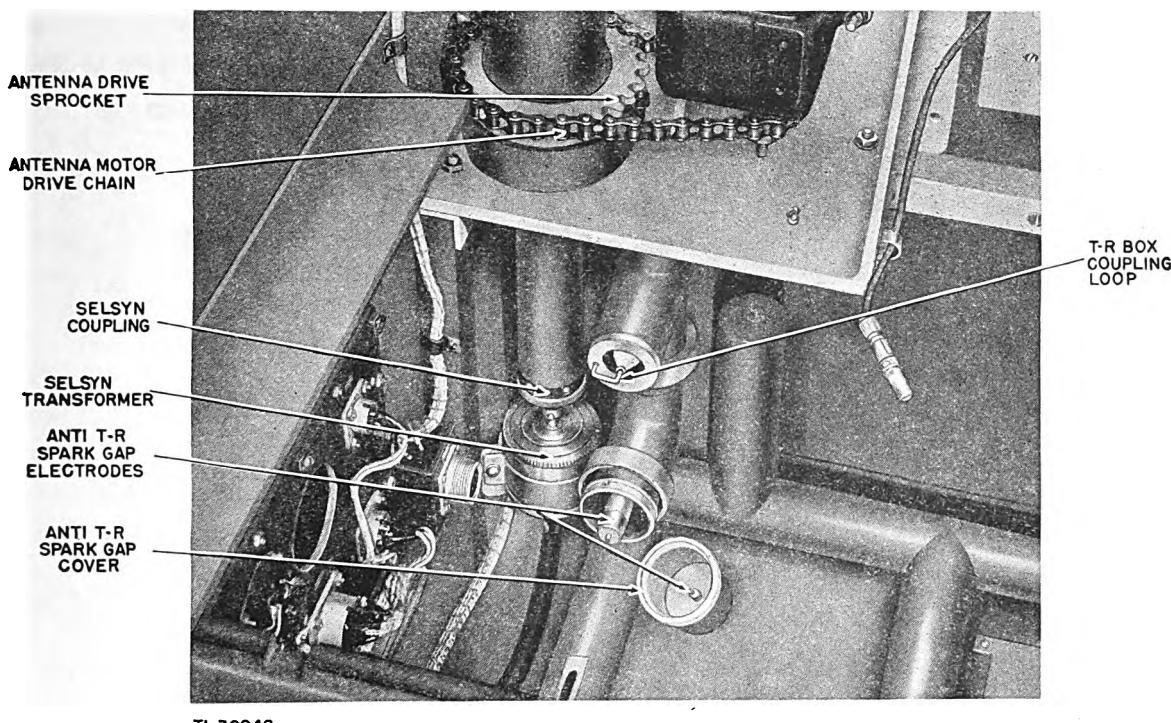
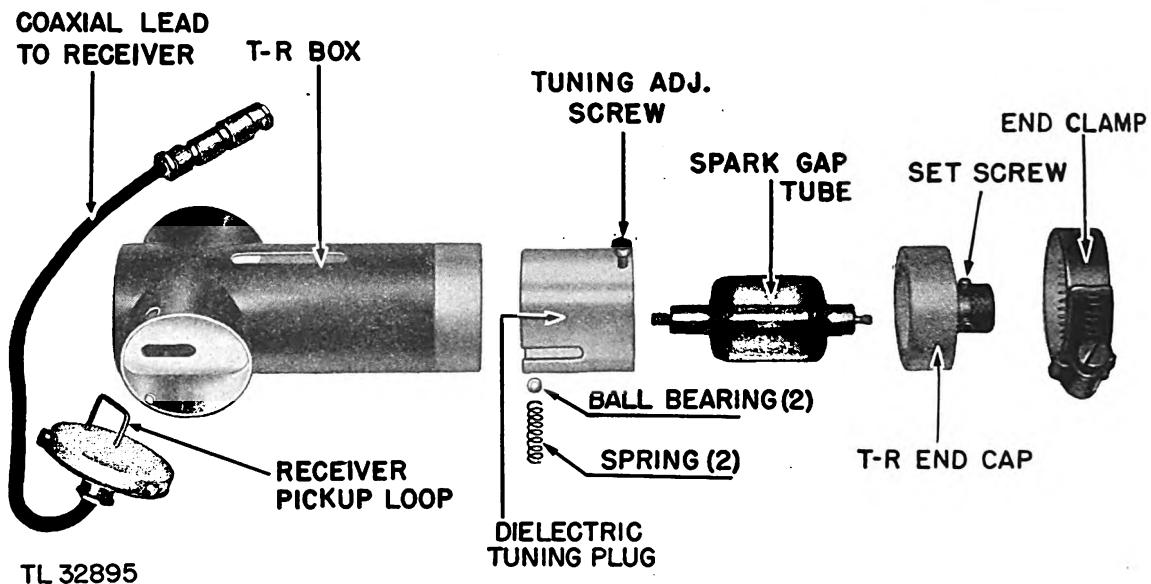

Figure 83. Close up of console interior plumbing, corner.
Figure 85. T-R, disassembled.
(9) Check the dipole assembly within the parabola to see that it has not been broken or badly dented. There should be no obstructions between the elements of the assembly.
(10) Even though the transmission line and antenna may be in proper working order, the transmitter is firing properly, and energy is being radiated by the antenna, still no echoes may be seen on the scopes. The transmission line to the receiver might be at fault. Check the connector on the coaxial cable between the T-R box and the receiver plug board at the rear of the console. Make sure that these connectors are properly engaged (fig. 83).
(11) Check the adjustment of the anti T-R spark gap. The knurled screw should be turned fully clockwise. The points of the gap are now touching. Turn the screw  $\frac{1}{4}$  of a turn counterclockwise. This is the proper gap-clearance and is about 0.010 inches. Frequently it is necessary to increase this gap a little. The best adjustment can be determined by viewing the "A" scope after an adjustment has been made. The grass should be of uniform gradation along the length of the sweep line.
(12) Check the tuning of the T-R box (figs. 83 and 84). The slider should be adjusted to about midway along the slot until echoes on the screen are of maximum height. If this has no effect, remove the T-R box from the end of the stub by loosening the screws. Remove the circular plate on the side of the box, and examine both this coupling loop and the loop inside the mounting stub. These should be clean and straight so they will fit into the slots in the T-R box (fig. 85). It may be
necessary to replace the T-R tube if damaged. This is extremely rare as the voltage at this point is not high enough to cause damage. The only method of determining damage to this tube, is to replace it with a new one, (see figure 85 for assembly) and observe the action on the scopes.